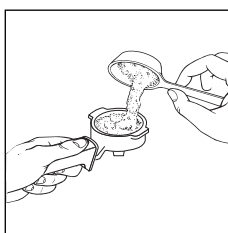

fig. 14
2. To prepare a single coffee, fill the filter with a level measure of ground coffee, about 7 g (fig. 14). To prepare two coffees, use the filter and fill with two loosely filled measures of ground coffee (about 6+6 g). Fill the filter in small doses to prevent the ground coffee from overflowing.